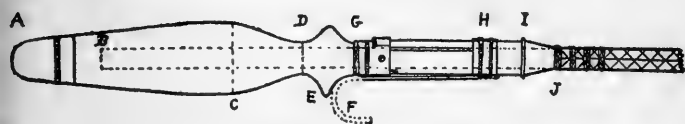

Fig. 8 — Cedar grasp for bait-casting rod
the bait-casting rod. Here the grasp is not removable, and because of the increased strain on the handle of this rod, the butt-joint should extend down inside the grasp to within two inches at most of the butt-cap, this part of the joint first being filed down to a uniform size. In this rod the reel seat is placed above the grasp. A pattern for the handle of cedar is shown in Fig. 8, one piece of wood extending from A to I. G — I represents a German-silver reel seat, slid over and cemented to its cedar-core. This reel seat has a simple but effective locking reel-band (H) and it was obtained from James Heddon's Sons, of Dowagiac, Mich., for one dollar. The